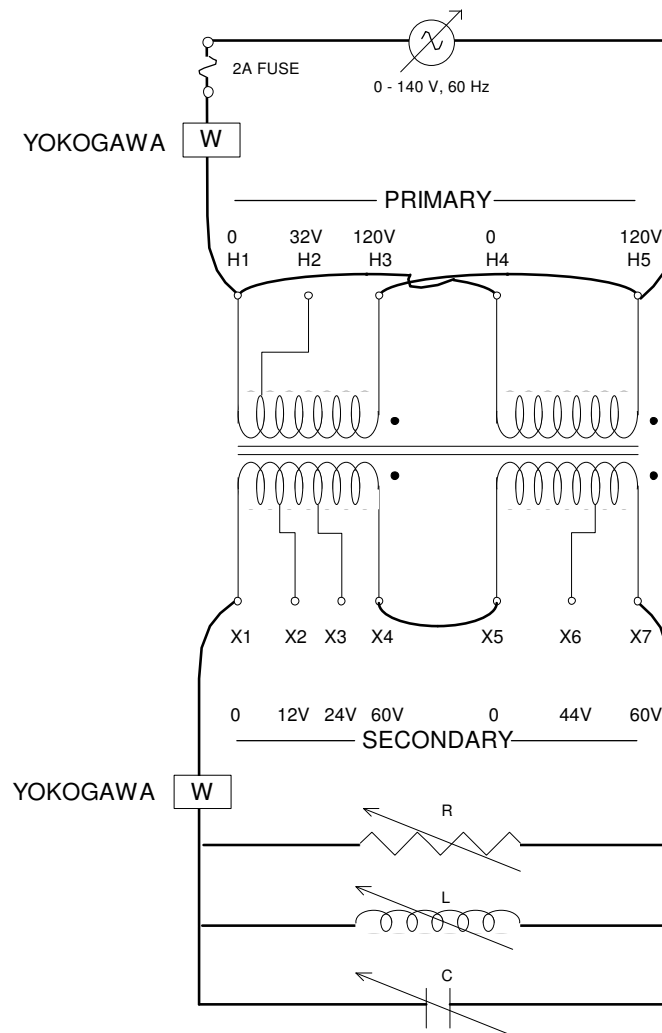

Figure 5. Transformer Connections for Step #8.
8. Perform the voltage regulation and efficiency measurements under various load conditions, as shown in Figure 5.